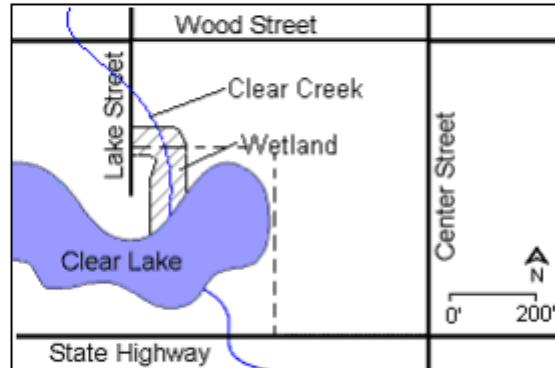

Figure 4-9
2. The proximity of the earth change to lakes, streams, wetlands and other predominant land features (Figure 4-9).